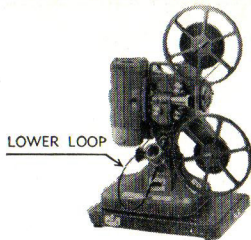

Fig. 2
3. Thread your Projector in the normal manner (see Page 8 of your Instruction Book) leaving the lower loop much longer than usual (as shown in Fig. 2).
4. Using both hands (as shown in Fig. 3) with Film under roller, insert Film under Film Punch and Film Guide Plate. Seat in Aperture Track (as shown in Fig. 4). The threaded Projector and Viewer should look like Fig. 2 with a very large lower loop. (It is important to have a large lower loop in order to feed your Film through the Viewer.)